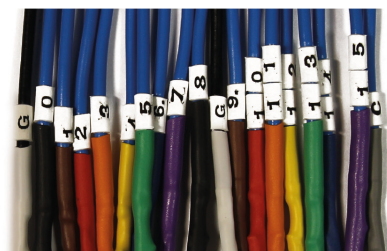

Figure 6. RTBx flying leads (TTL)
- 25cm long flying leads to connect hardware pins to **RTBx** adapters, suitable for TTL and LVDS inputs (Figure 6).